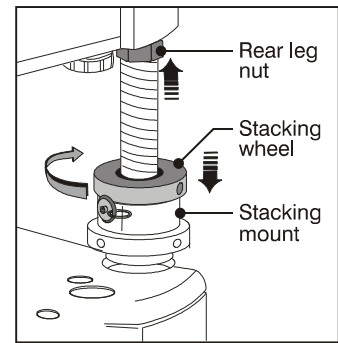

Figure 2-19 Secure All Hardware
- Turn all 3 stacking wheels until they are ***firmly secure*** against the rest of the stacking mount. See Figure 2-19.